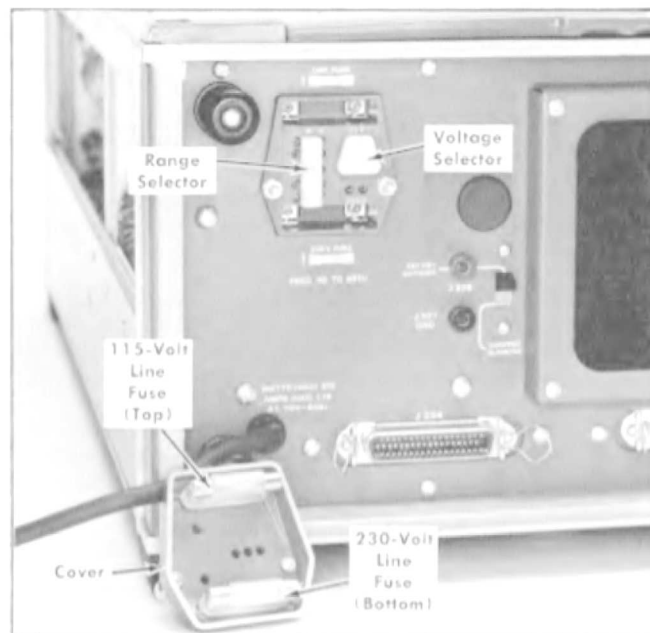

Fig. 2-1. Line voltage selector assembly with cover removed. Shown set for 115-volt medium-range operation.
3. To convert to a different line voltage, pull out the Voltage Selector switch bar (see Fig. 2-1), rotate it 180° and plug it into the opposite set of holes. The Voltage Selector switch bar is in the upper position for 115-volt operation and in the lower position for 230-volt operation.
4. To change regulating ranges, pull out the Range Selector switch bar (see Fig. 2-1), slide it to the desired range and plug it back in. Select a range which is centered about the average line voltage to be applied (see Table 2-1).